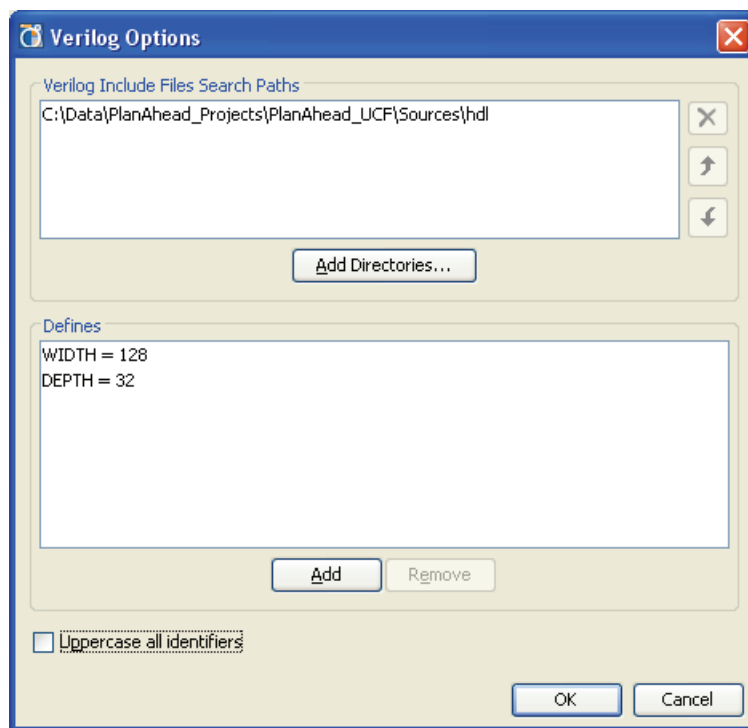

Figure 3-46: Verilog Options
- **Verilog Options:** Specify Verilog options as defined below. These options are defined on the Verilog Options dialog box, are shown in Figure 3-46, page 90.